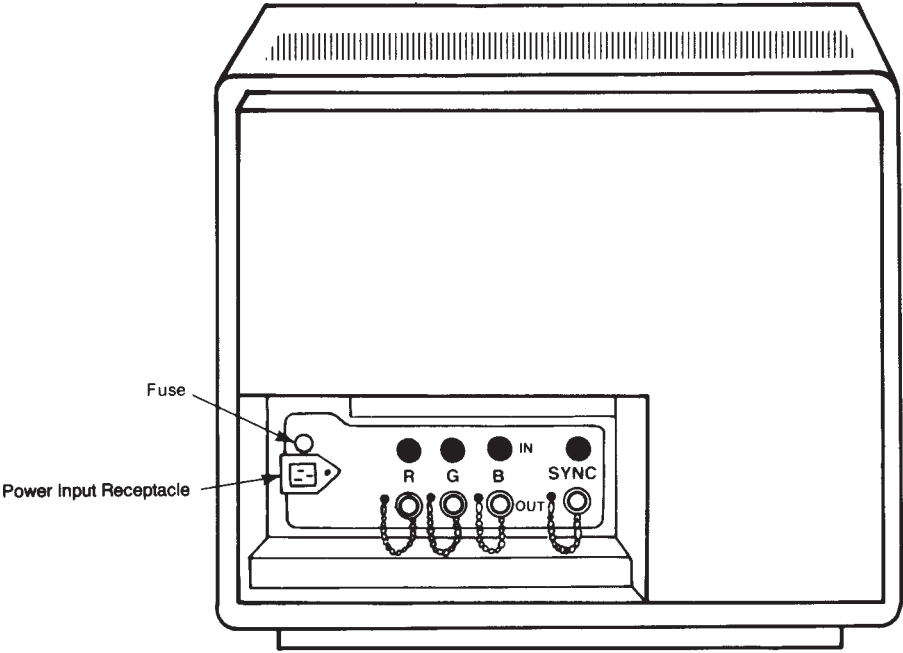

Figure A-1: Monitor Back Panel for Nineteen-inch 60 Hz Monitor
The 60 Hz non-interlaced monitors have a monitor control panel on the lower right front. On the back of the monitors are several ports for receiving video signals and a power socket. These monitors are available in two sizes, nineteen-inch and fifteen-inch. (See Figures A-1 and A-2.)
The monitor back panel has several connectors for the cables that connect the monitor to the cabinet (see Figures A-1, A-2, and A-3).
- The fuse protects the circuit. See the information printed next to the fuse for type and rating requirements. (See Figure A-1.)
- The power input receptacle attaches to the power cable. See the information printed next to the receptacle for power requirements. (See Figure A-1.)